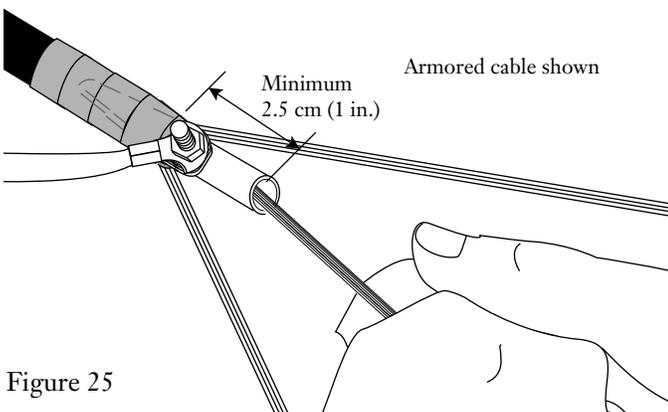

Figure 25
- f) Repeat these steps until the desired length of central tube is removed, leaving at least 2.5 cm (1 in.) of exposed central tube beyond the end of the sheath (see Figure 25).
6.3 Use a lint free tissue or cloth to wipe the filling compound from each ribbon (Figure 25). Do not exceed the ribbon's minimum bend radius during the cleaning process (i.e. Do not wrap ribbon around fingers). If cleaner ribbons are desired, filling compound remover may be used as follows: